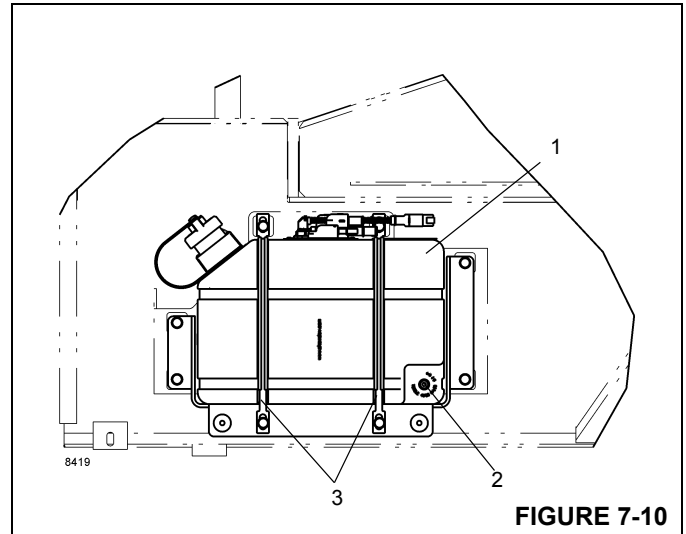

FIGURE 7-10
1. Drain the DEF into a suitable container (Figure 7-10). Reinstall the drain plug and torque to 40-60 lb-in (4.5-6.8 Nm).